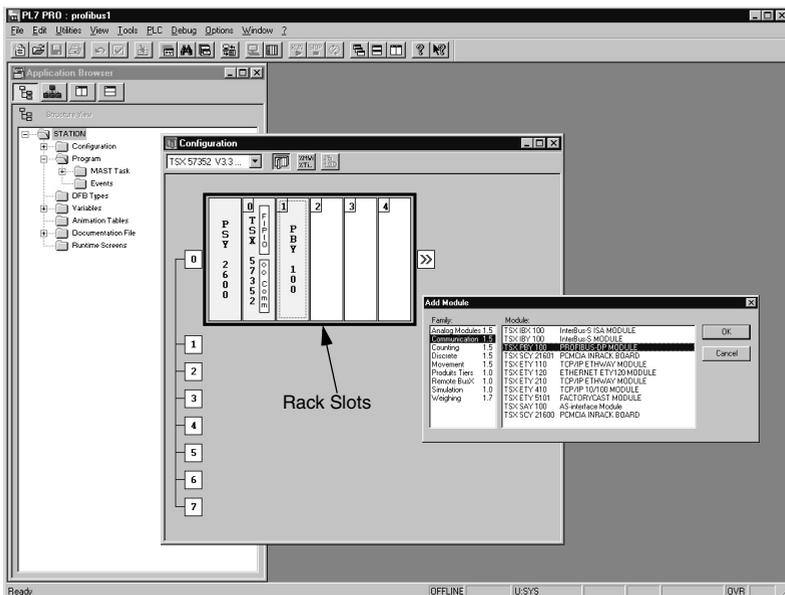

Figure 16: Adding a PROFIBUS DP Module to the Rack Configuration
5. Double-click on an unused rack slot to add a module. The Add Module dialog box will appear. Under Family, highlight Communication. Under Module highlight TSX PBX 100 PROFIBUS DP MODULE. Click **OK**. (See Figure 16.)